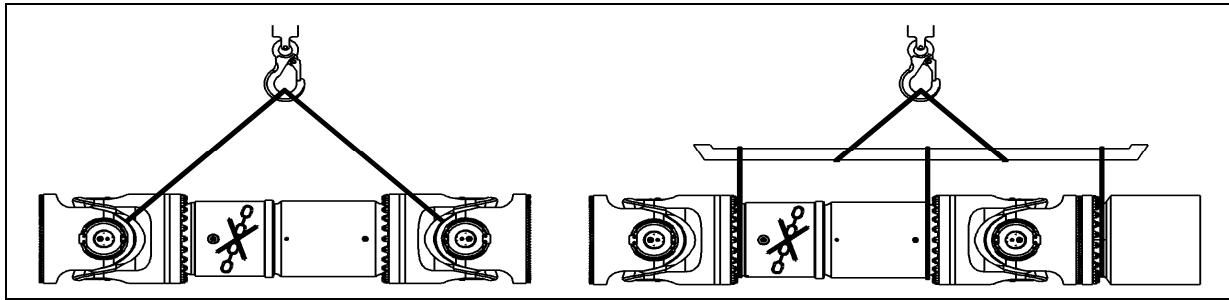

Fig. 4.1: Attaching the universal joint shaft
- ⇒ Only lift universal joint shafts at the prescribed attachment points (→ Fig. 4.1, page 32).
- ⇒ Do not attach universal joint shaft in marked area (→ Fig. 4.1, page 32).